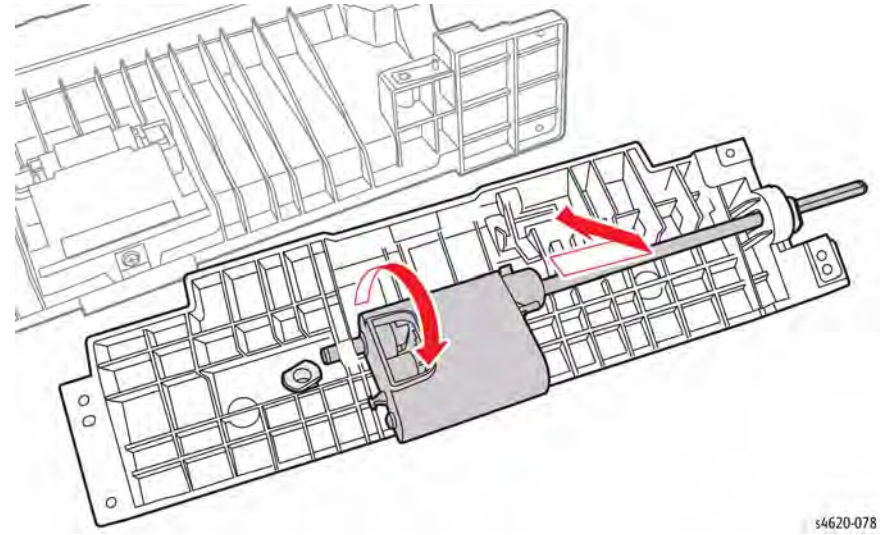

Figure 2 Remove the Tray 1 Pick-up Assembly
12. Remove the Pick Assembly from the Feeder Assembly, Figure 2.